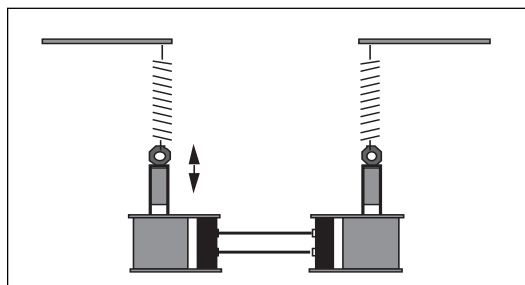
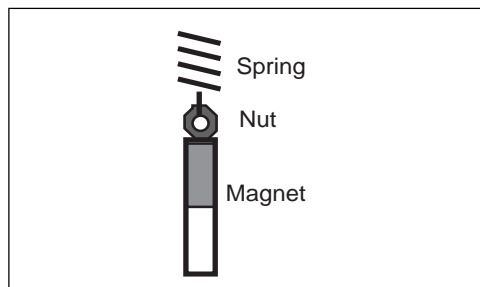

Figure 1
Figure 2
1. Set up the two 400-turn coils, the magnets, springs and ring stands as shown in Figure 1. See Figure 2 to see how the springs “attach” to the magnets.